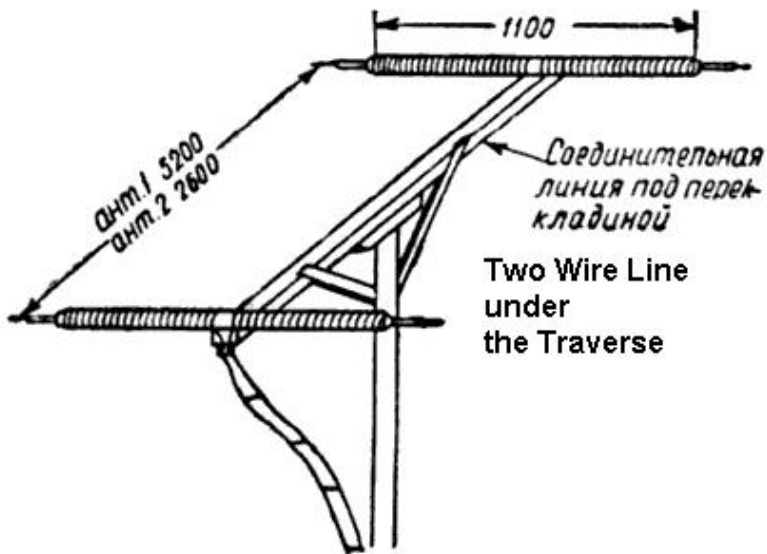
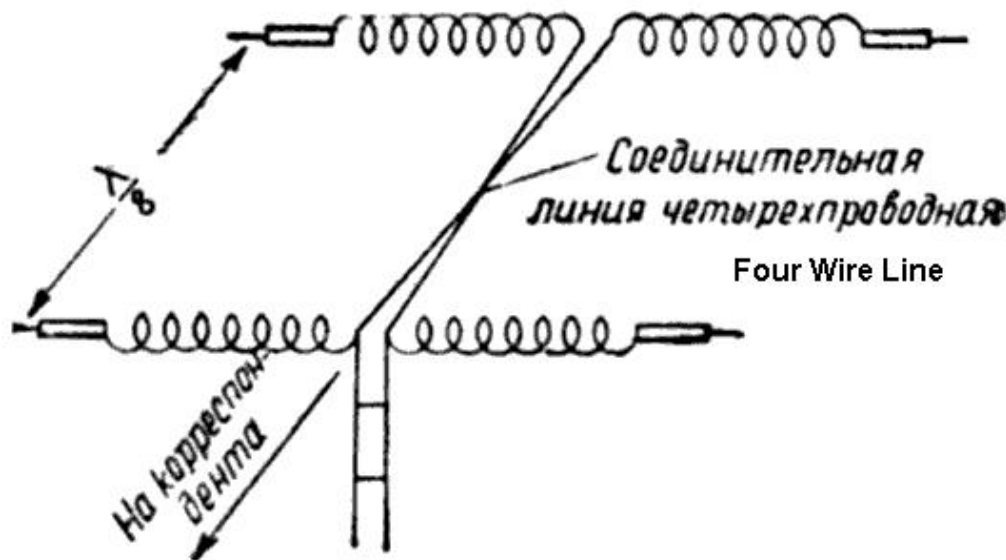
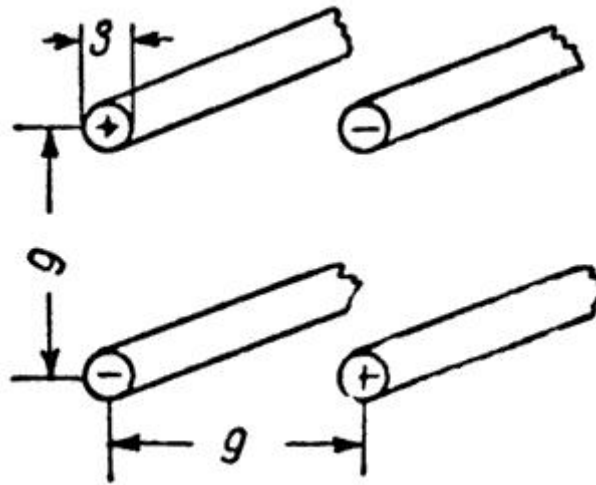

Figure 3 Design of the Directional Dipole Helical Antenna
Figure 4 Design of the Small Directional Dipole Helical Antenna
Figure 5 Design of the Four- Wire Line
The Helical Dipoles were fastened to the traverse made from a strong square wood stick. The stick is fastened to the antenna mast. Open Two Wire Line made of copper cord wire (3- mm (9-AWG) OD) the distance between wires was 6- cm. The line was sitting on insulators under the strong square stick. Length of the line is 5.2- meter. Design of the Directional Dipole Helical Antenna is shown on **Figure 3**.
It was tested Directional Dipole Helical Antenna with reduced sizes. Length between the Helical Dipoles was $\lambda/8$ (2.6-m) for the 20- Meter Band. Phase shift line at the antenna made from Four Wire Open Line. **Figure 4** shows the design of the Small Directional Dipole Helical Antenna.
Figure 5 shows the design of the Four Wire Open Line. The Four- Wire Line was placed onto insulators under the square wood stick. The small sized Directional Dipole Helical Antenna at the test showed that this one worked similar to the helical antenna shown on the **Figure 3**.
However, the Small Directional Dipole Helical Antenna was more complicated in the tuning compare to Antenna from the **Figure 3**. The antennas were fed by 500- Ohm Two Wire Line in 15.6-meter ($3/4$ - Lambda) length.
Tuning of the Directional Dipole Helical Antenna (for both antennas- **Figure 3** and **Figure 4**):
7. Connect the antenna to the feeder. (Both dipoles, as shown on the Figure 3 and Figure 4) (Figure 6D) Antenna should not detune the feeder. If it is, repeat tuning process from paragraph 1.